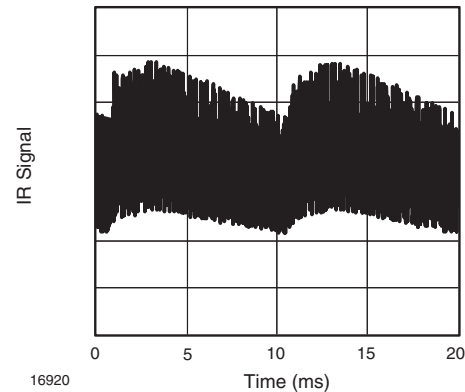

Fig. 12 - IR Signal from Fluorescent Lamp with Low Modulation
- Strongly or weakly modulated noise from fluorescent lamps with electronic ballasts (see figure 12 or figure 13)